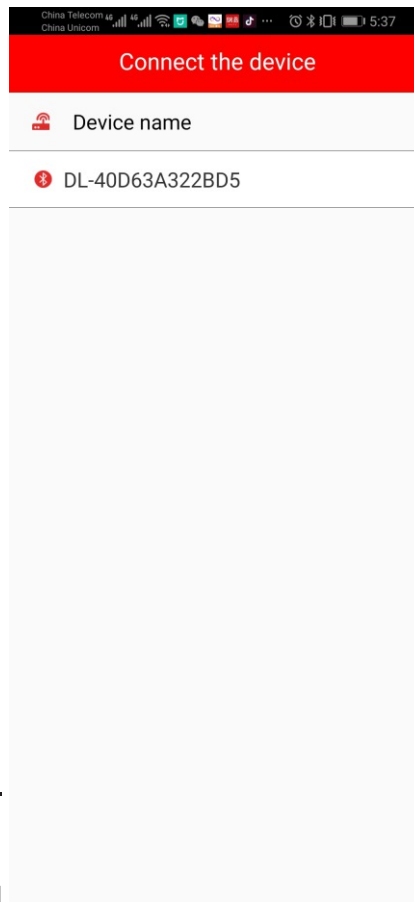

Figure 6.
- Enter the APP interface, you can see the corresponding Bluetooth serial number. The serial number is the same as the serial number posted on Bluetooth. (see Figure 6. )